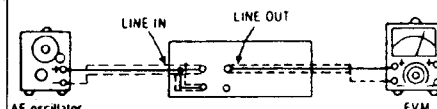

Fig. 2
- Set the AF oscillator's output frequency to 315Hz/−20dB (100mV) (see Fig. 2).